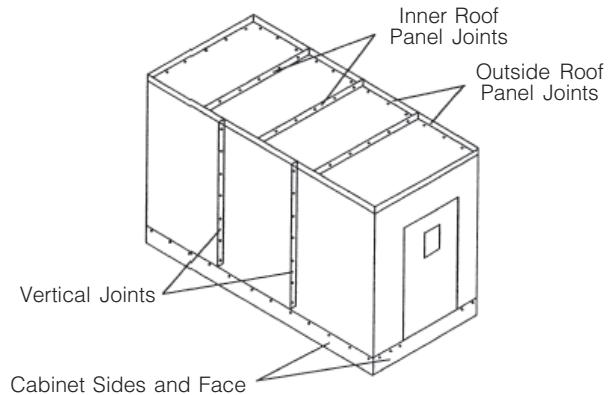

Figure 3-19. Tighten Cabinet Bolts
30. Securely tighten cabinet bolts in the order listed below (see Figure 3-19):